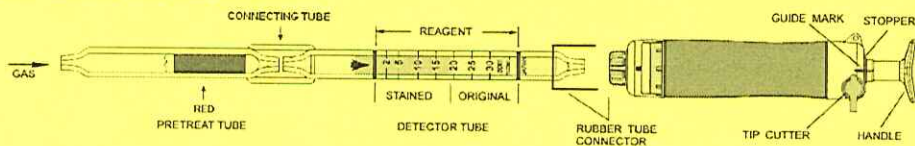

Fig.1
- ① Break both ends of the detector tube and pretreat tube, and connect each end of the detector tube and pretreat tube with connecting tube as shown in Fig.1.
- ② Insert the detector tube into the aspirating pump securely as shown in Fig. 1. (Arrow mark on the detector tube shall point to the pump.)
- ③ Align the guide marks on the shaft and stopper of the aspirating pump.
- ④ Pull the pump handle at a full stroke until it locks and wait for 40 seconds or until the completion of sampling is confirmed with the flow indicator of the pump. (See descriptions about the flow indicator in the instruction manual of the pump)
- ⑤ On completion of sampling, read the scale at the maximum point of the stained layer.
- ① Temperature; Correct the tube reading by following temperature correction table.